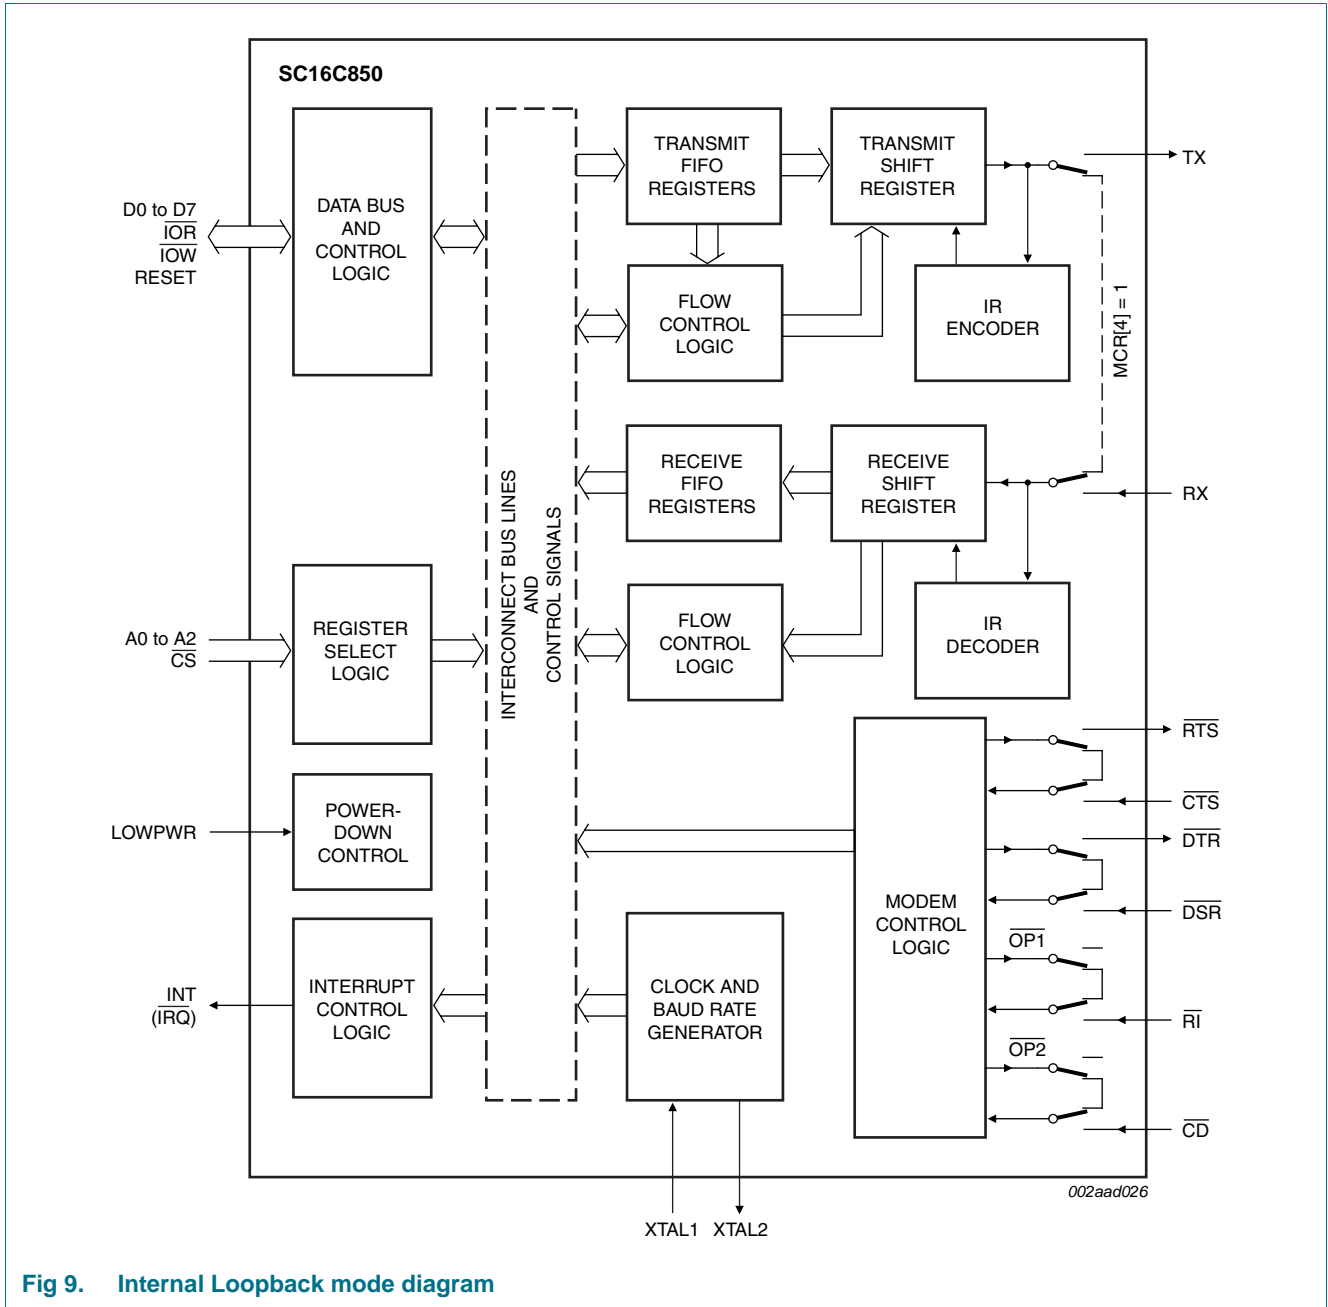

Fig 9. Internal Loopback mode diagram
The internal loopback capability allows on-board diagnostics. In the Loopback mode, the normal modem interface pins are disconnected and reconfigured for loopback internally (see Figure 9). MCR[3:0] register bits are used for controlling loopback diagnostic testing. In the Loopback mode, the transmitter output (TX) and the receiver input (RX) are disconnected from their associated interface pins, and instead are connected together internally. The  $\overline{\text{CTS}}$ ,  $\overline{\text{DSR}}$ ,  $\overline{\text{CD}}$ , and  $\overline{\text{RI}}$  are disconnected from their normal modem control input pins, and instead are connected internally to  $\overline{\text{RTS}}$ ,  $\overline{\text{DTR}}$ , MCR[3] ( $\overline{\text{OP2}}$ ) and MCR[2] ( $\overline{\text{OP1}}$ ). Loopback test data is entered into the transmit holding register via the user data bus interface, D[7:0]. The transmit UART serializes the data and passes the serial data to the receive UART via the internal loopback connection. The receive UART converts the serial data back into parallel data that is then made available at the user data interface D[7:0]. The user optionally compares the received data to the initial transmitted data for verifying error-free operation of the UART TX/RX circuits.